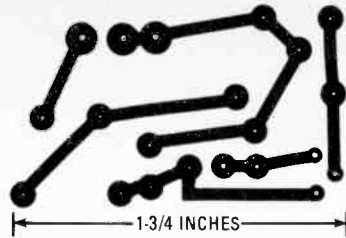

Fig. 2. This full-scale printed-circuit foil pattern may be used to produce your own printed-circuit board.
**Construction.** The components needed to build the Metal Detector are fairly common, and you may already have them in your junkbox. The circuit layout and method of construction is not critical. The author chose to build the circuit on printed-circuit board. If you decide to use a printed-circuit board too, a suitable template for the board is shown in Fig. 2. If you wish, a kit of parts, including a silk-screened printed-circuit board from the source given in the Parts List.